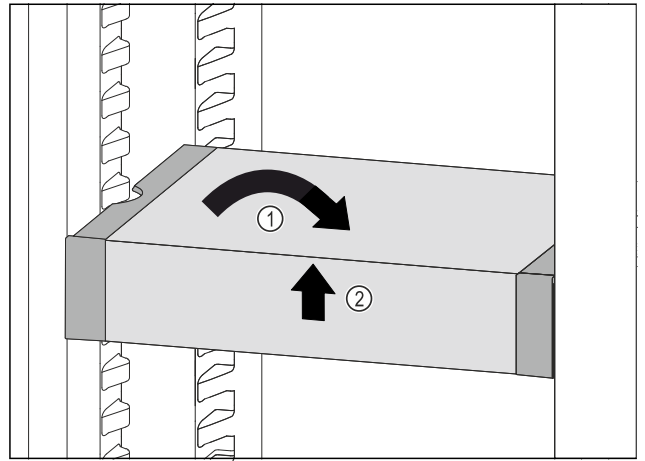

Fig. 93
- ▶ Set VarioSafe straight. *Fig. 93 (1)*
- ▶ Lift VarioSafe at the front. *Fig. 93 (2)*